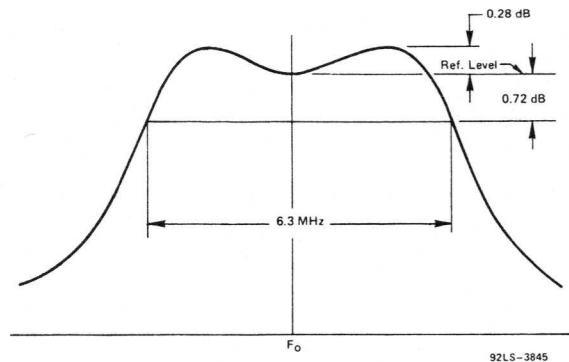

Figure 2 — Bandwidth Characteristics
- r The bandwidth of 6.3 MHz is calculated at the -0.72 dB power points of a doubled-tuned output circuit using two times the tube output capacity and a damping factor of $\sqrt{1.5}$ as shown in Figure 2.